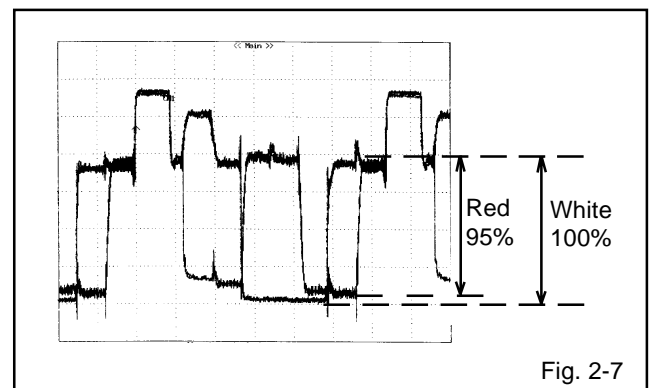

Fig. 2-7
7. Press the PLAY or STOP button on the remote control until the red color level is adjusted to $95 \pm 5\%$ of the white level. (**Refer to Fig. 2-7**)